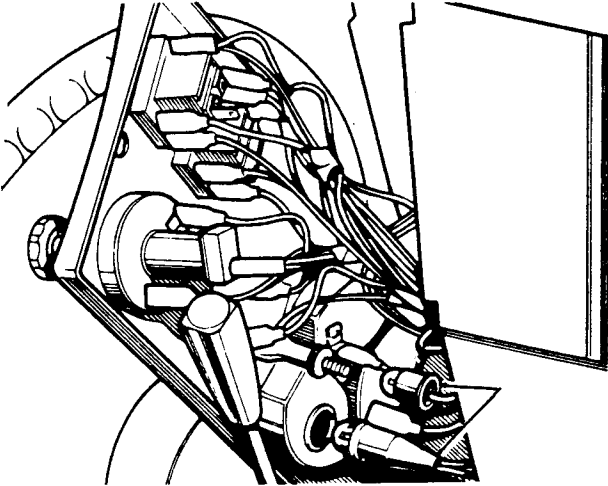

Fig O5.14
- (3) Refer to Fig O5.14. Withdraw the bulb holder and change the bulb as necessary.